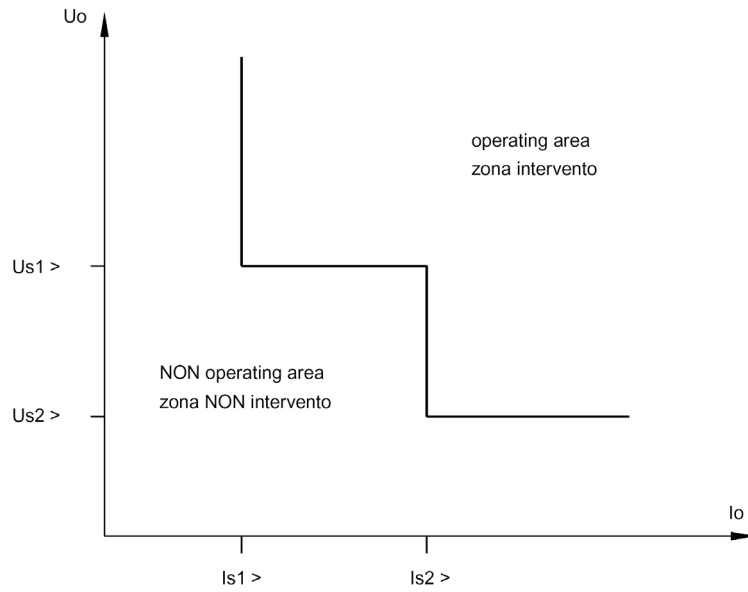

Figure 1
- DIRECTIONAL with NON operating zone around the origin (according to ENEL DV1001 specification) (see fig. 1)
The thresholds **67.S1** and **67.S2** (current thresholds $I_{s1}>$ and $I_{s2}>$ and voltage thresholds $U_{s1}>$ and $U_{s2}>$) are logically combined (OR) to obtain the threshold **67.SA** and they allow you to have an operating voltage-current characteristic as showed in figure 1 (for any angular sector $\Phi_A<$); this characteristic allows very low voltage and current thresholds with a NON operating zone around the origin; the threshold **67.S3** remains independent.